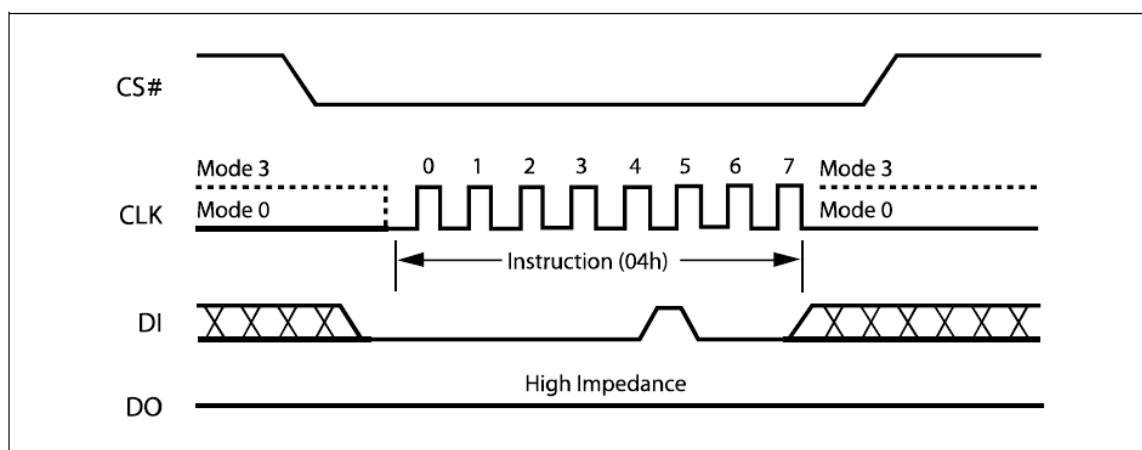

Figure 8. Write Disable Instruction Sequence Diagram
The Write Disable instruction (Figure 8) resets the Write Enable Latch (WEL) bit in the Status Register to a 0 or exit from OTP mode to normal mode. The Write Disable instruction is entered by driving Chip Select (CS#) low, shifting the instruction code "04h" into the DI pin and then driving Chip Select (CS#) high. Note that the WEL bit is automatically reset after Power-up and upon completion of the Write Status Register, Page Program, Sector Erase, Block Erase (BE) and Chip Erase instructions.